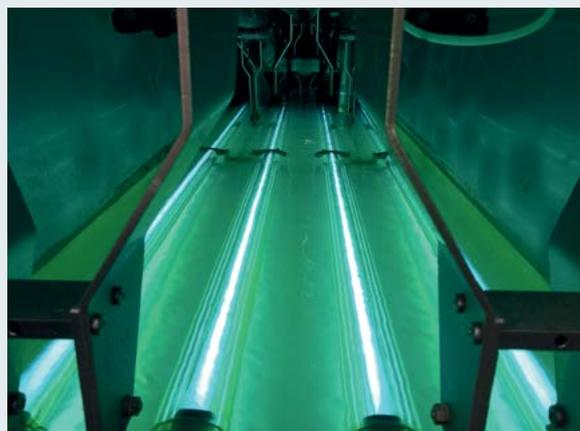

Figure 2
- **Ultraviolet treatment.** Shown in Figure 2.